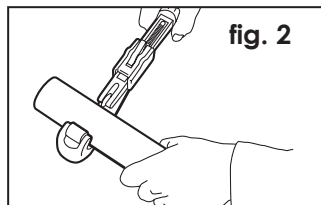
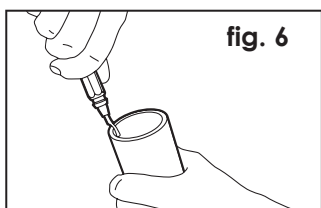

fig. 2
fig. 6
25 mm - 110 mm (fig. 2)
32 mm – 110 mm (fig. 6)
a) Preparation of the MULTITUBO systems multi-layer pipe as described in point 3.1.1. (fig. 2, fig. 6).